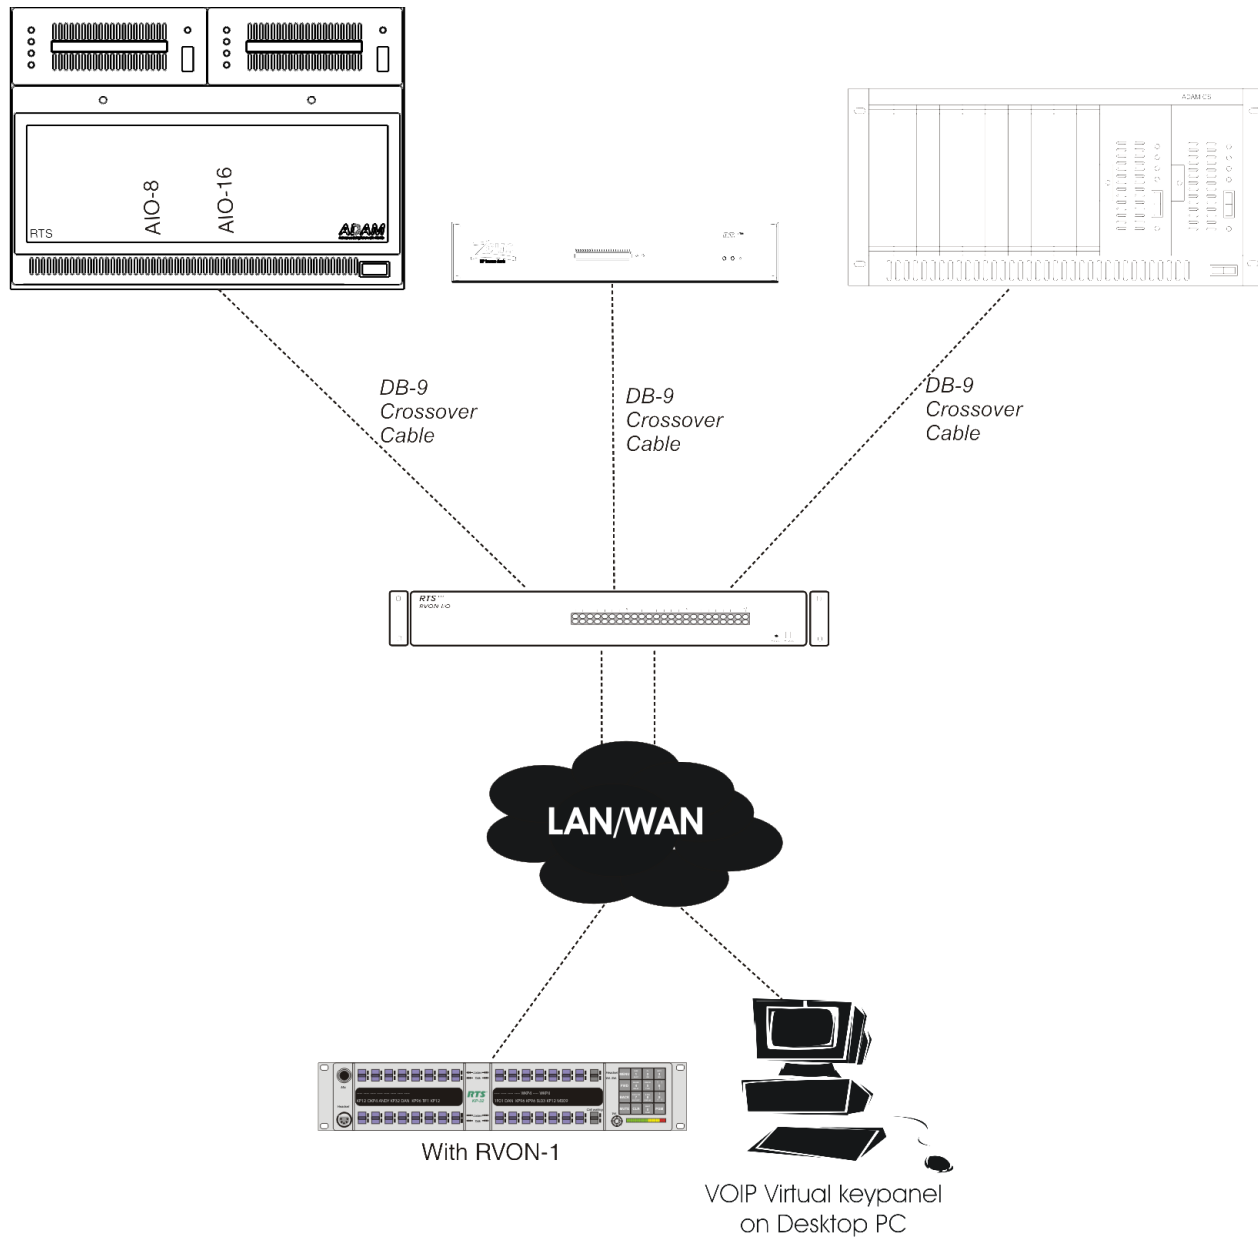

FIGURE 10. Remote Mode
When you trunk two (2) intercom systems together using two (2) RVON-I/O's, configure both in remote mode (see Figure 10 on page 18).